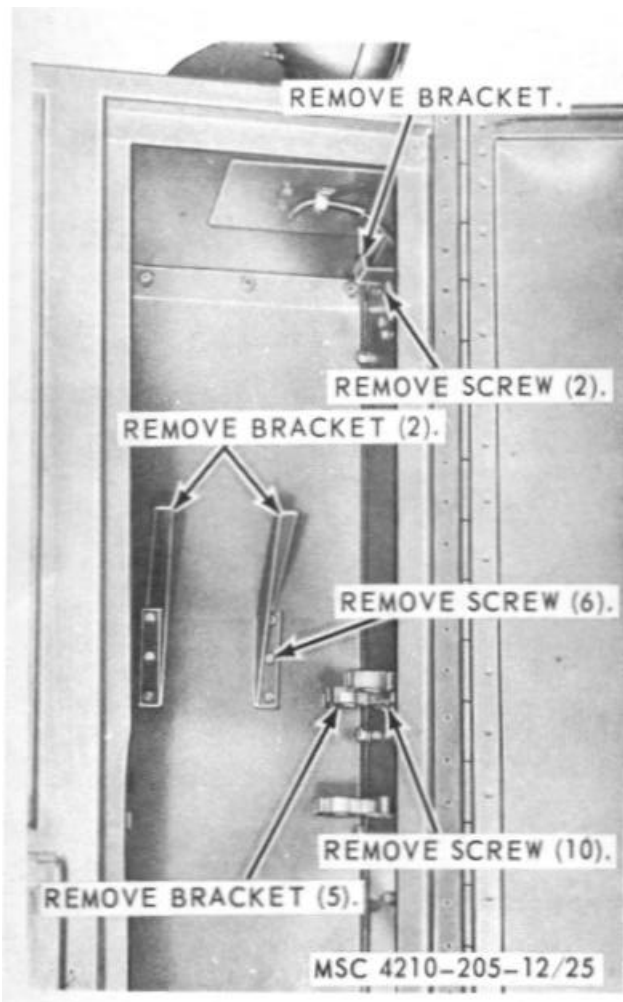

Figure 25. Axe, bars, cutter compartment accessory brackets, removal and installation.
a. *Removal.* Refer to figure 25, and remove the
- (1) Clean all parts with an approved cleaning solvent, and dry thoroughly.
- (2) Inspect all parts for damaged or defective condition.
- (3) Replace or repair damaged or defective parts as necessary.
c. *Installation.* Refer to figure 25, and install the axe, bars, and cutter accessories brackets on the compartment.